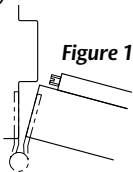

Figure 1 - Surface Mounted
- a) Surface mounted: the plunger contacts the stop (see Figure 1).